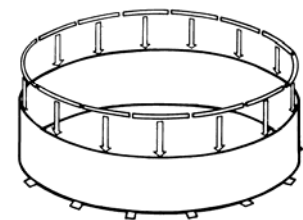

Figure 3.6
- While uncoiling the wall, install the top wall channels around the circumference of the pool wall. This will add rigidity during installation. (figure 3.6) Make sure the top wall channel junctions are aligned with the bottom wall channel junctions.